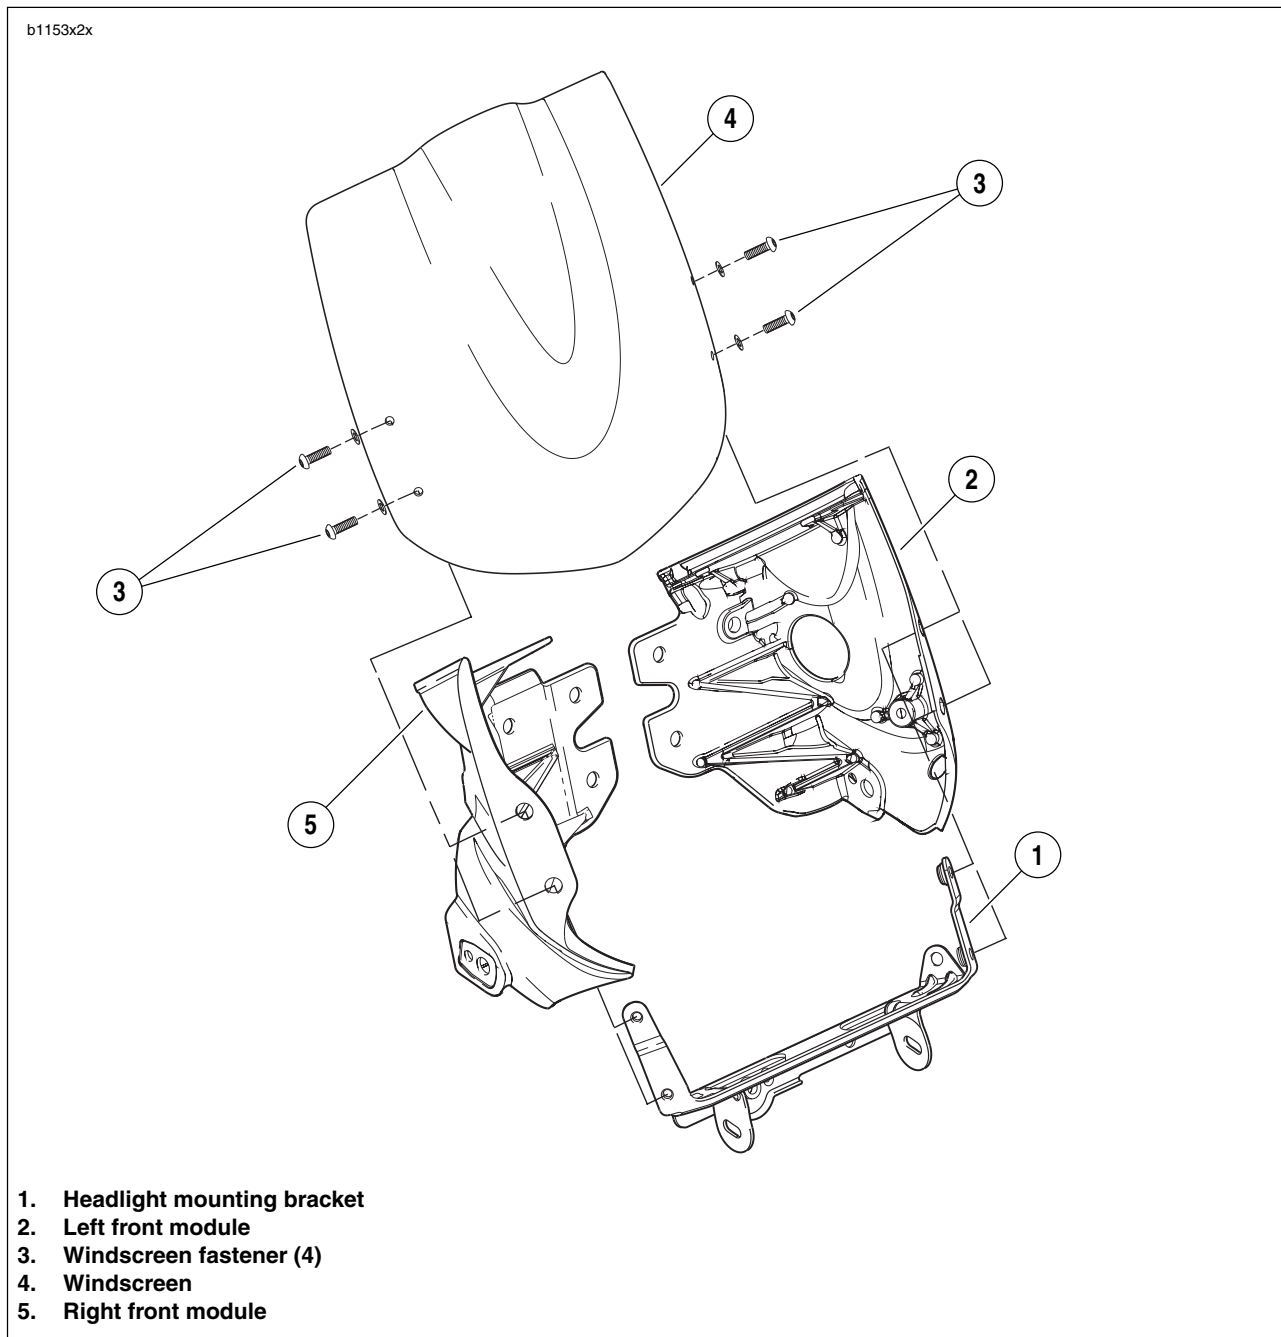

Figure 2-116. Front Windscreen
1. See Figure 2-116. Remove four windscreen fasteners (3).
2. Remove windscreen (4).
1. See Figure 2-116. Position windscreen (4) onto left and right front modules (2, 5).
2. Install four fasteners (3) and tighten to 10-12 **in-lbs** (1.1-1.4 Nm).